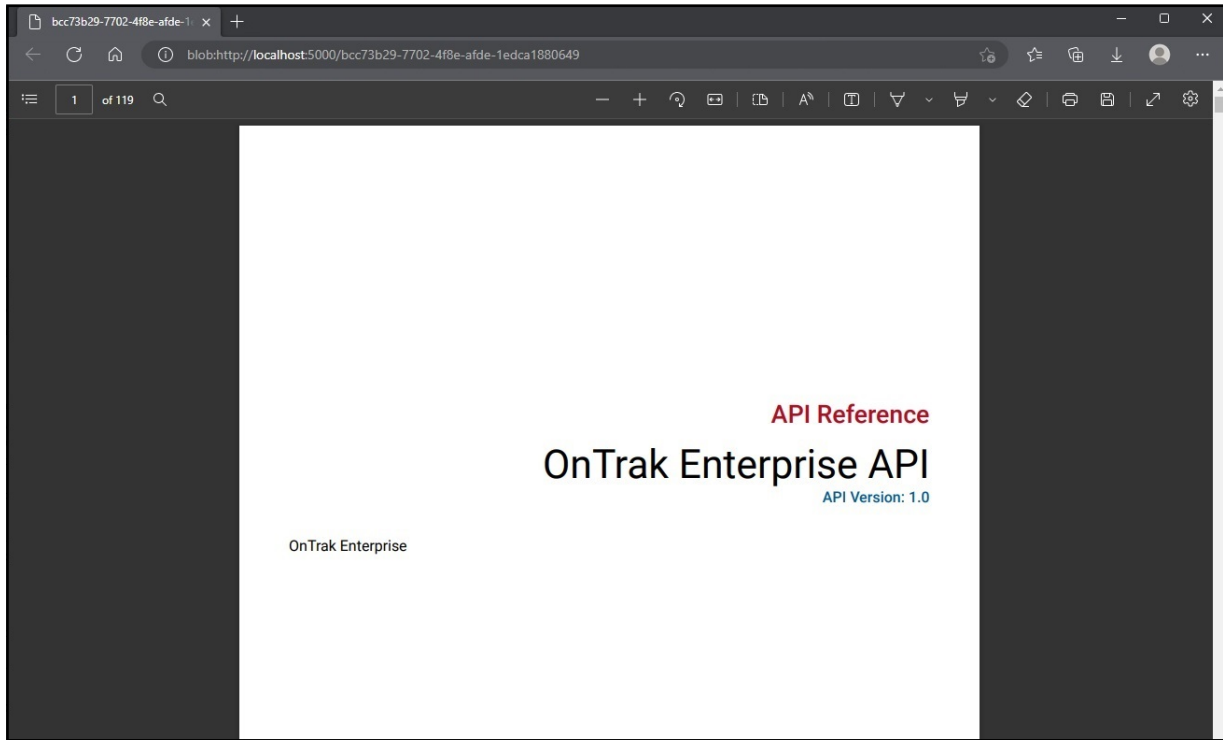

Figure 13-3. API Document Opened In Internet Browser
5. Review the API documentation (see Figure 13-3 on page 152).